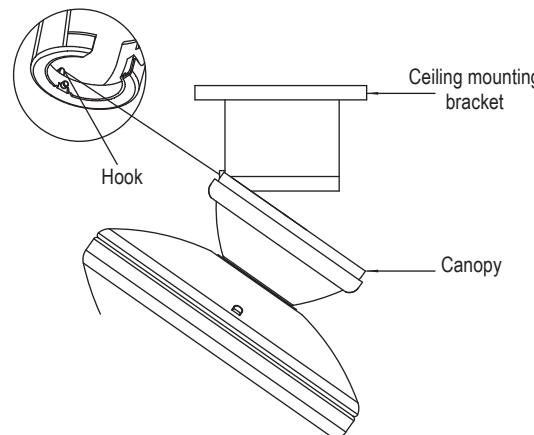

Fig. 9
**Step 3.** Remove three of the six screws and lock washers (every other one) from the collar of top motor (Fig. 9)
**Step 4.** Place the ceiling canopy with decoration ring and the gasket over the collar at the top of the motor. Align the mounting holes with the holes in the motor and fasten using the screws and lock washers provided. (Fig. 9)
**Step 5.** Tighten the mounting screws securely. (Fig. 9)